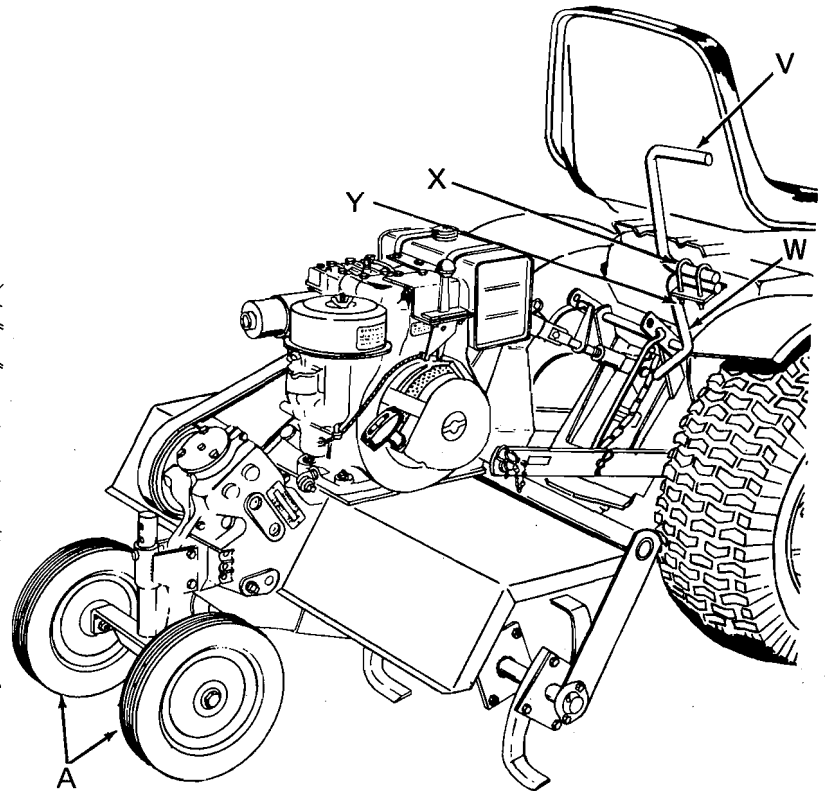

FIG. 1B
- 1 - Lift handle extension (V, Figure 1B)
- 1 - U-Bolt plate (X, Figure 1B)
- 2 - U-Bolts (X, Figure 1B)
- 4 - Locknuts (Y, Figure 1B)
8. Assemble lift handle extension (V) to lift lever (W) with U-bolts, plate and locknuts (X). Tighten nut securely. Refer to Figure 1B.